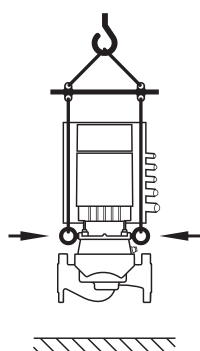

Fig. 8: Transporting the pump
- The pump must be transported using approved lifting gear (e.g. block and tackle, crane, etc.). These are to be attached to the transport eyes at the motor flange (Fig. 8, shown here: lifting direction with vertical motor shaft).